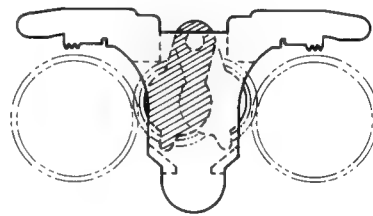

Fig. 5-6
- b. The slide brake at top position (Refer to Fig. 5-6)